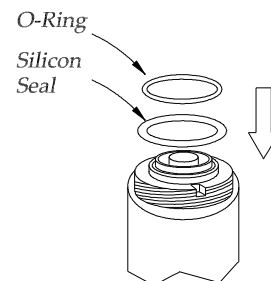

Fig. 5.1.6
5. Hold the gas sensor with the electrode pointing upwards. Ensure that the new O-ring has the appropriate colour and that, if applicable, the silicon seal is in place. (fig. 5.1.6)